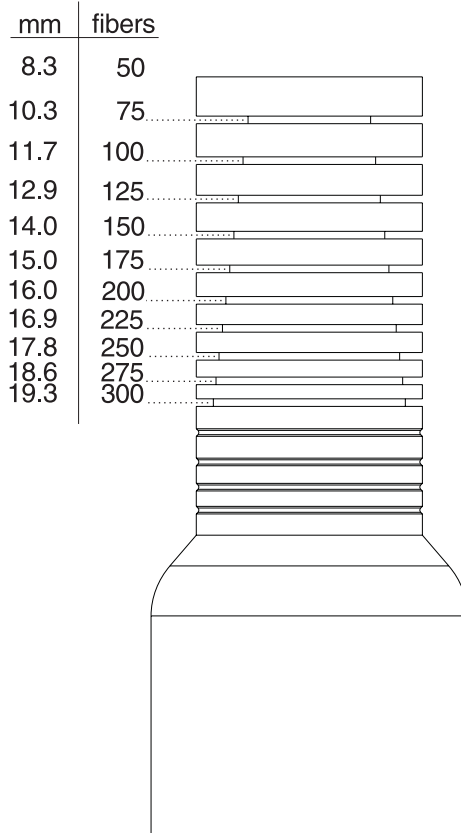

Figure 1: Cutting position for cables over 8.3 mm in diameter
1. If you are installing a cable over 8.3 mm in diameter (50 1 mm fibers), cut the adaptor with a hacksaw at the position shown in Figure 1. See photo 1.